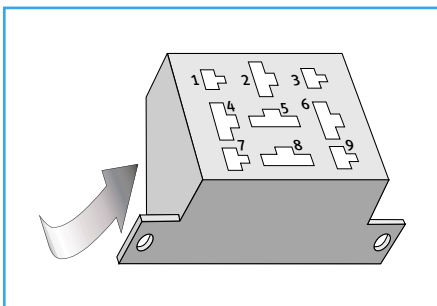

Figure 13 Safety shut-off (pin assignment relays base)
**Pin assignment (see → Figure 13)**